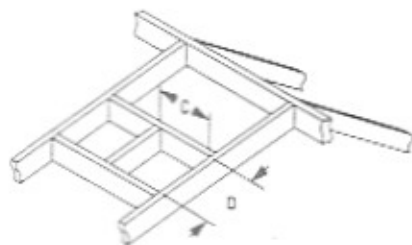

Figure 18
**B.** To add vent sections, start with the 5" (127 mm) inner section and slide it over the previously installed inner section; an overlap of 1 1/4" (32 mm) is required. The section will not bottom out on the bead. **Remember to seal inner sections using \_Mill-Pac Black (700°F) high temperature sealant on the mating surfaces before fitting together.** Secure with two (2) No. 8 x 1/2" sheet metal screws. Slide the 8" (203 mm) outer section over the previously installed outer section; a 1 1/4" (32 mm) overlap is required. This section will not bottom out on the bead. Make sure the crimped end of both inner and outer vent sections are the same height and that the centering spacer is properly seated. Secure with two (2) No. 8 x 1/2" sheet metal screws.
**C.** At transition from or to a horizontal run, the \_DST5-90ELB/ \_DST5-45ELB elbows install in the same manner as the straight vent sections. Apply Mill-Pac Black (700°F) high temperature sealant to the inner joints. Slip the inner elbow over the straight inner vent section. Secure with two (2) screws. Slide the outer elbow over the inner elbow, slip down over the outer vent section. Secure with two (2) screws.
**F.** Identify location for vent at the roof. Cut and/or frame opening per Roof Framing Chart and Figure 18.